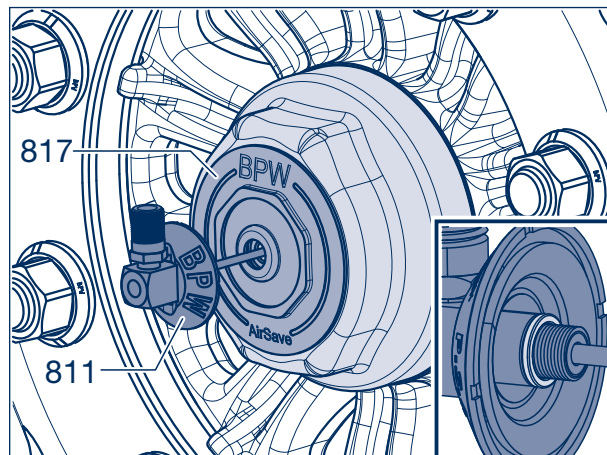

Figure 4
- [7] Check soft sealing ring of the rotor (811 or 811a, depending on tyre) for correct seat at the end of the thread, push up to the bumper if necessary (Fig. 4, Section).
- [8] Guide the rotor into the adapter (817) of the hub cap and the stator (821) in the axle stub and push until contact is made. There will be a slight resistance.